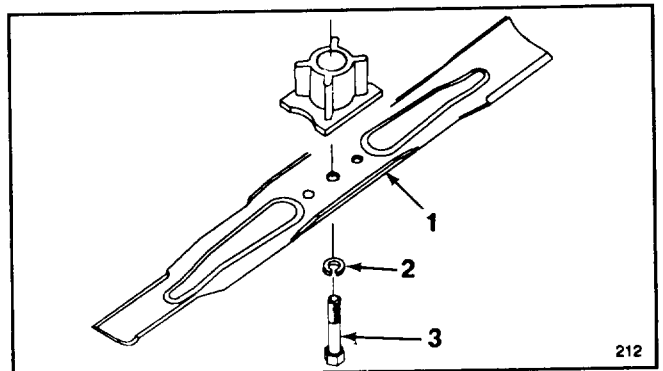

Figure 22
5. **REMOVING BLADE**—Grasp end of blade using a rag or thickly padded glove. Remove blade bolt, lockwasher and blade (Fig. 22).